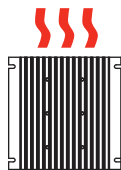

fig. 2 Maximum heat sink dissipation on natural convection
- For optimal thermal performance heat sink fins should be oriented vertically to promote natural convection airflow. (See **fig. 2**)